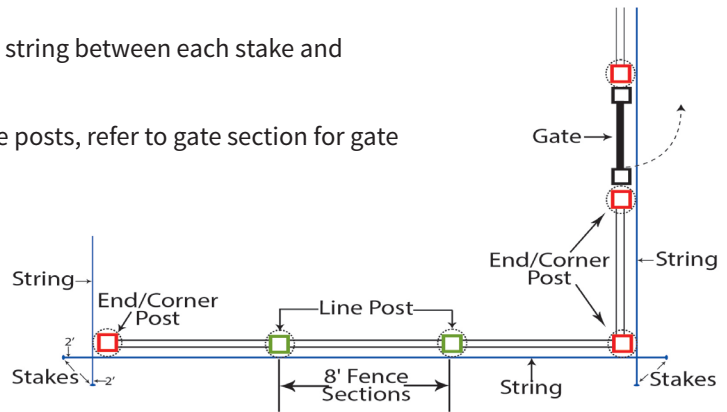

Fig. 1a
2. Drive stakes at each end of property lines. Then stretch a string between each stake and extend the string 2' beyond property line (Fig. 1a).